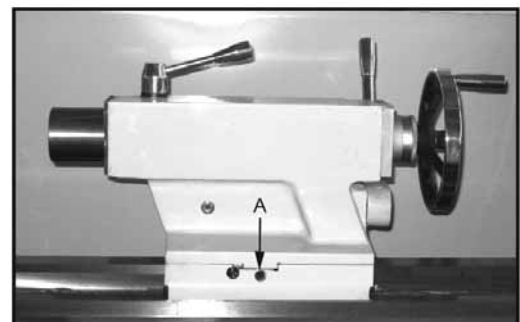

Fig. 22
3. If adjustment is needed, align the tailstock using the off-set screws (A, Fig. 22) until the tailstock is aligned.